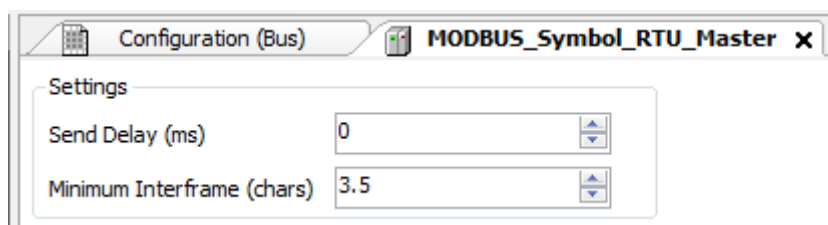

Figure 69: MODBUS RTU Master Configuration Screen
- Configure the general parameters of the MODBUS Master protocol, like: transmission delay times and minimum inter-frame as in Figure 69.